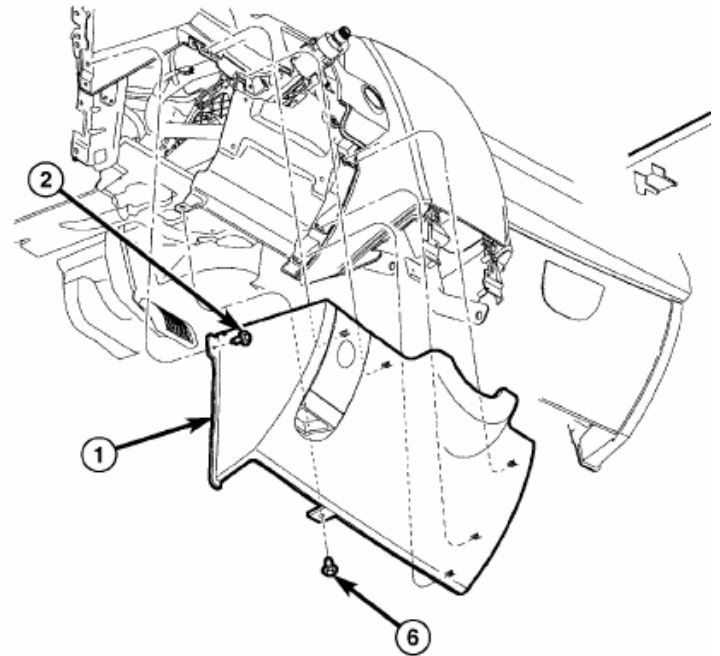

Fig. 4 Steering Column Cover
- Remove the screws (2 and 6) that secure the steering column cover (1) to the instrument panel (Fig. 4).
7. Install the screws (2 and 6) that secure the steering column cover (1) to the instrument panel. Tighten the screws securely (Fig. 4).